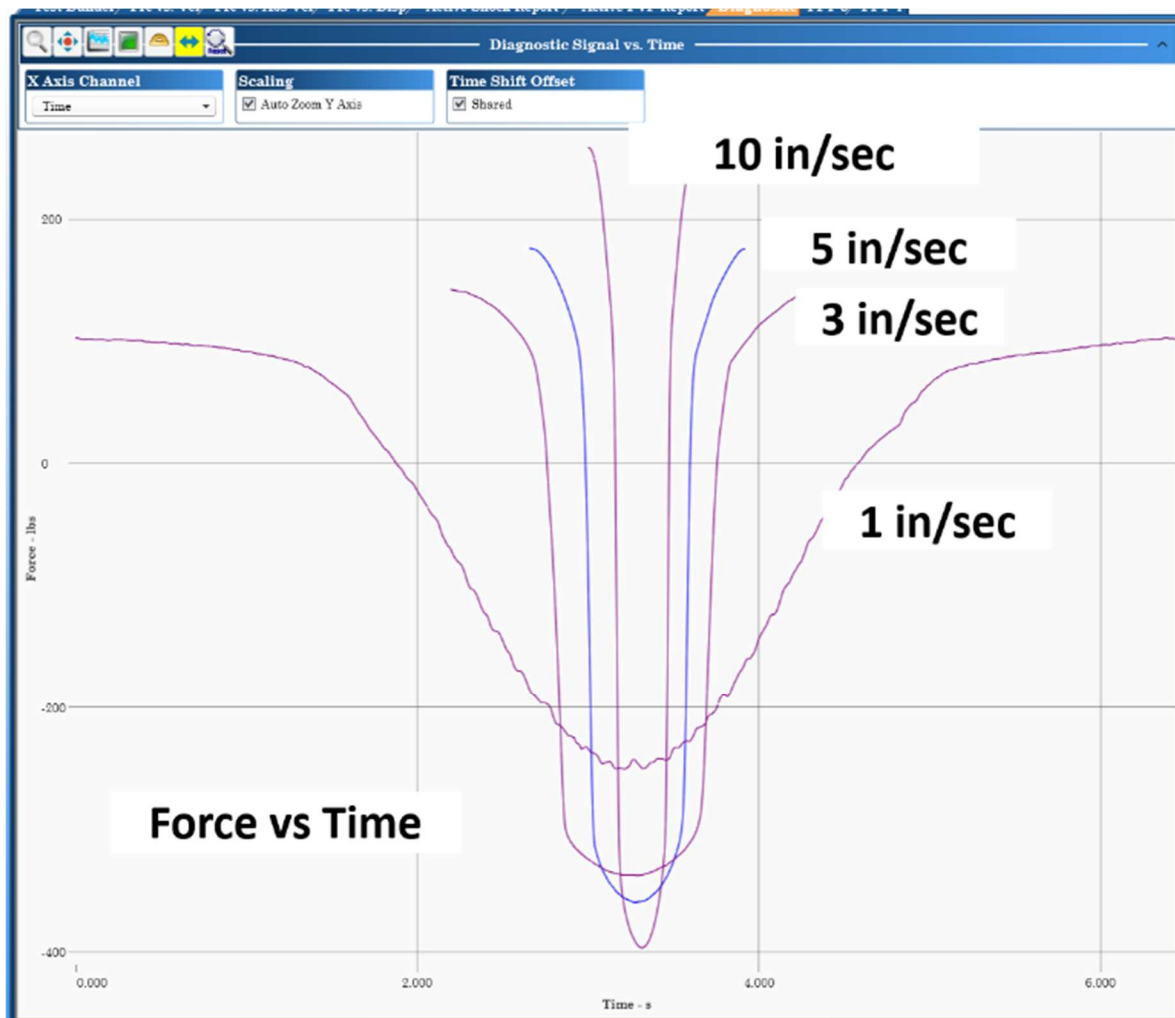

Figure 5: Force vs Time of 4 Speeds
Understand that the damper on your car, bike, ATV, etc.. operates at different velocities and that means different accelerations. Here, Figure 5, are the force signals from this damper run at (4) speeds. It should be obvious that you cannot use the 10 in/sec trace to estimate what the force is at 1 in/sec. If you want to know what the damper does at 1 in/sec then you must run the damper at 1 in/sec. You cannot run it at 10 in/sec and then use the data at 1 in to define the forces and effects. THEY ARE DIFFERENT.